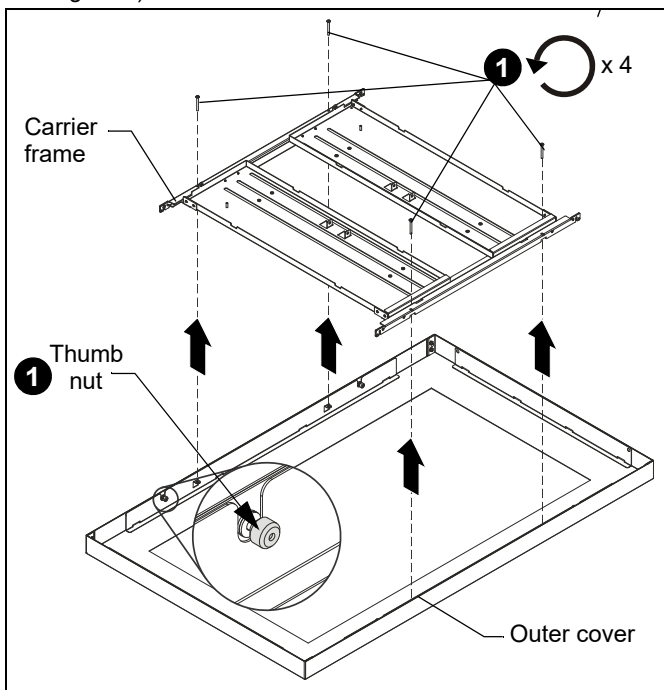

Figure 8
1. Remove and **SAVE** four Phillips screws, loosen four thumb nuts and remove carrier frame from outer cover. (See Figure 8)